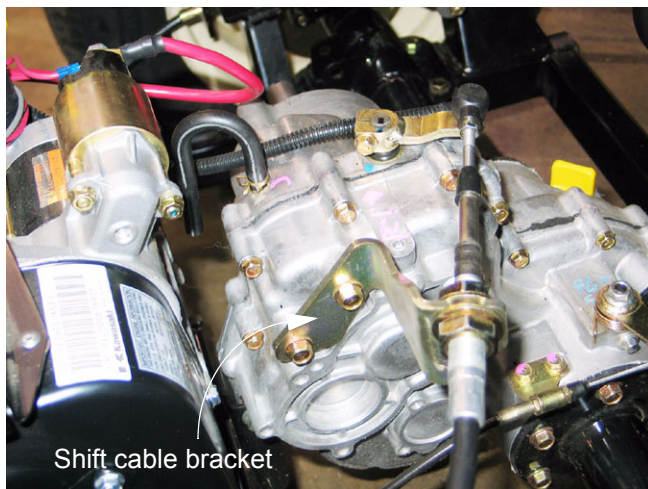

Figure 6.8
- 6.8. Remove the two bolts that hold the shift cable bracket to the transaxle using a 12 mm wrench. See Figure 6.8.